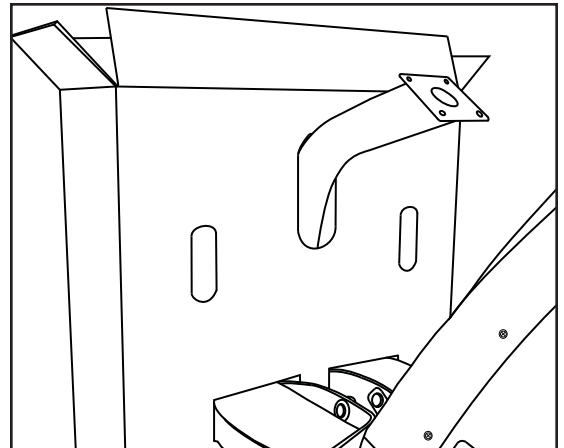

Figure 4
**3-1** Using the box knife, open the top of the box holding the Console/Upper mast weldment (see Figure 4).